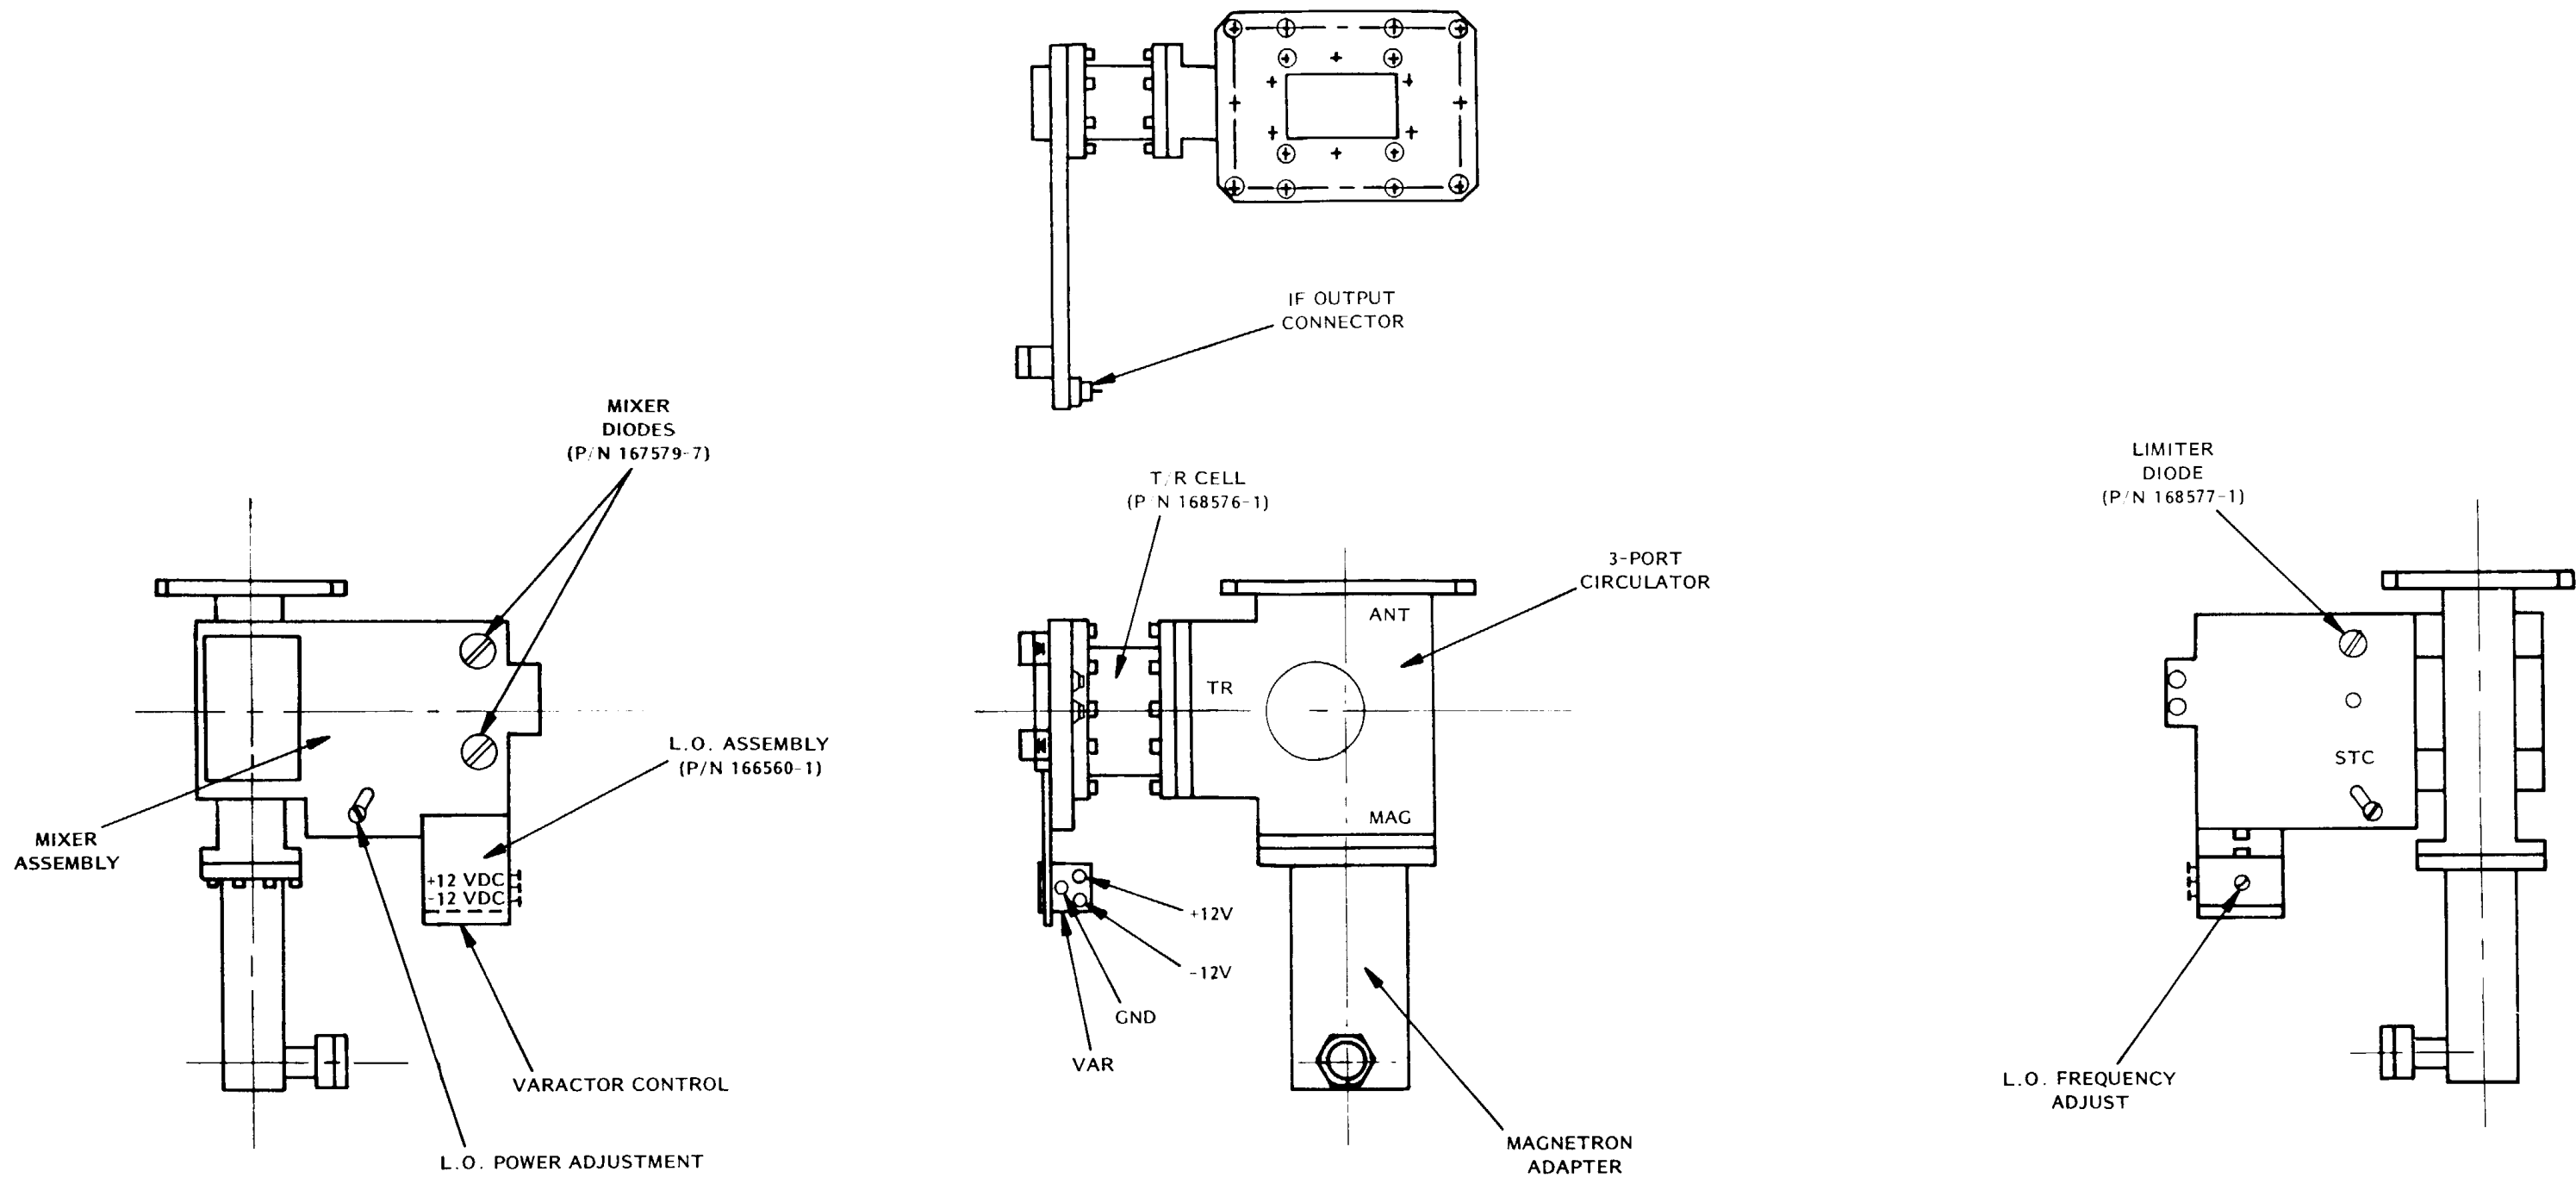

Figure 5-19. Microwave Assembly A8 Parts Locations (V4) (RT-1241)
5. Turn local oscillator frequency adjustment (see Figure 5-19) fully clockwise.
10. Turn local oscillator power adjustment control (see Figure 5-19) to obtain a reading at the center of the green zone on test meter M1.